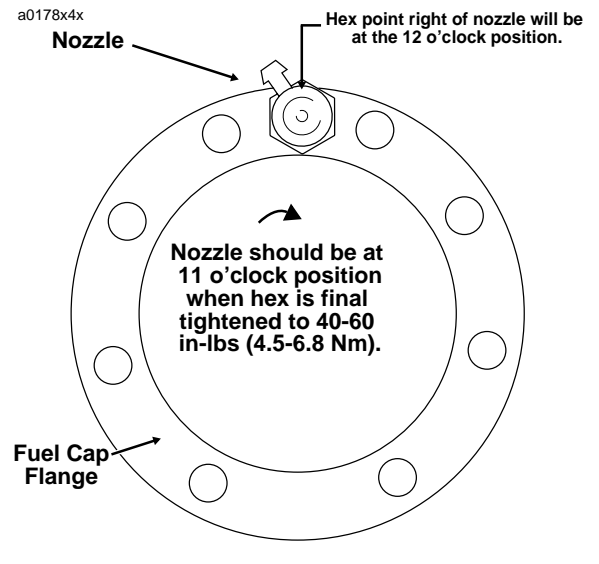

Figure 4-7. Filler Cap Flange Torque Sequence and Vent Tube Fitting Orientation
6. Alternately loosen and remove eight fuel cap flange screws in a crosswise pattern. See Figure 4-7.
5. Using a crosswise pattern, alternately tighten eight fuel cap flange screws until snug. See Figure 4-7. Following the same pattern, final tighten screws to 20-22 **in-lbs** (2.3-2.5 Nm).
6. Hand tighten vent tube fitting, so that nozzle is at the 11 o'clock position (with hex point to the right of the nozzle at 12 o'clock). See Figure 4-7.